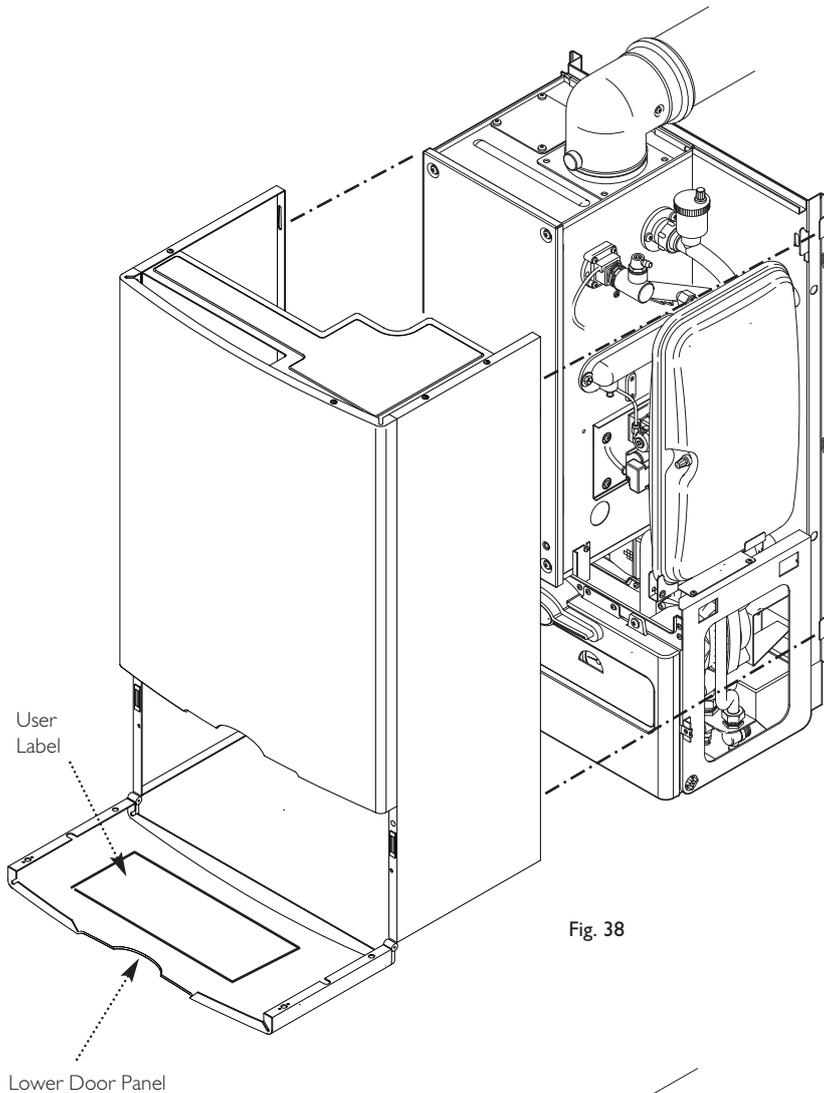

Fig. 38
NOTE: The information shown on the display is explained on the label on the inside of the lower door panel (see Fig. 38).
1. Fit the outercase to the appliance ensuring that the four slots in the side flanges align with the hooks on the chassis (Fig. 38).
7. Set the User preferences. See User Label on lower door panel (Fig. 38) or user's operating instructions (set CH/DHW temperatures).